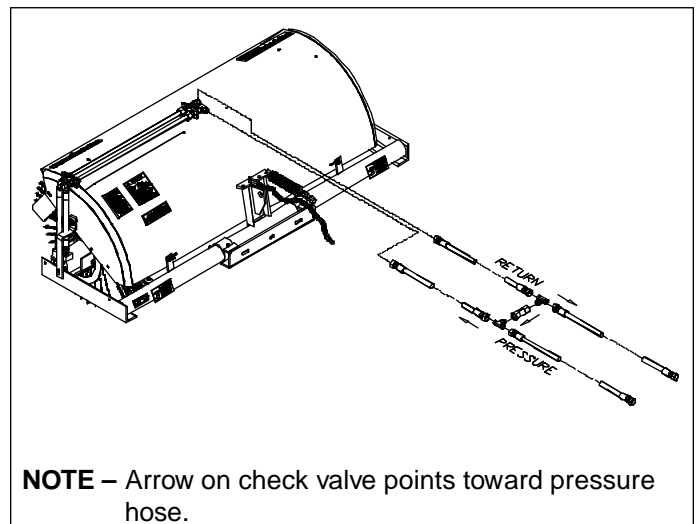

Figure 4
2. Install the check valve on hoses. the arrow points toward the pressure hose. (Figure 4)